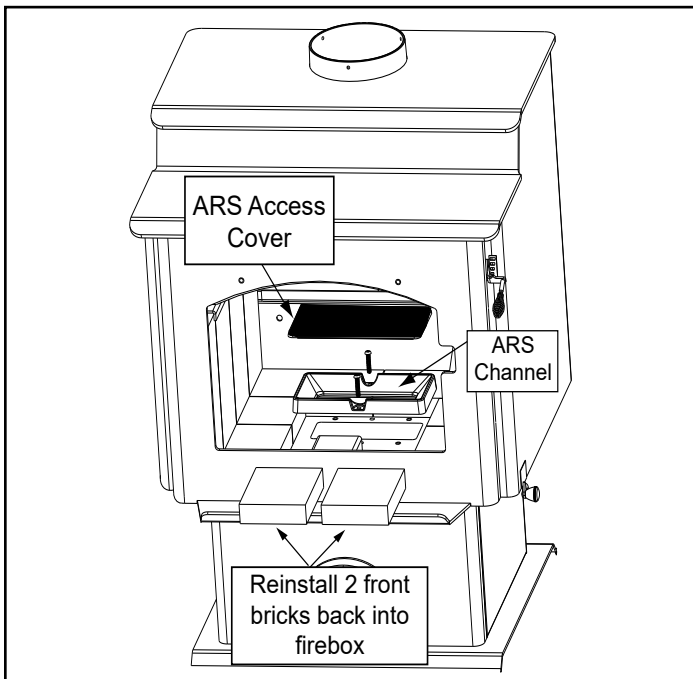

Figure 20.2
3. Install ARS access cover inside of ARS Channel that is located inside the firebox (**Figure 20.2**).